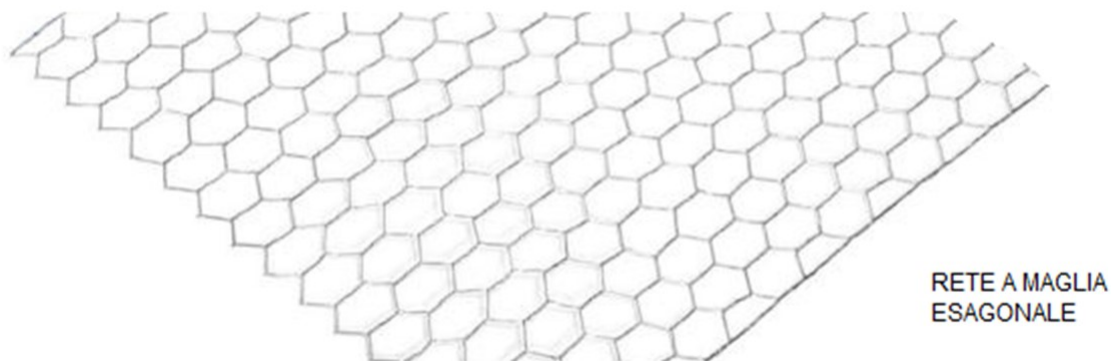

Fig. 3: Insertion of reinforcement mesh over pipes or ducts
- Above pipes or ducts, it is necessary to reinforce the screed with a hexagonal fine wire mesh (minimum thickness of screed above pipe not less than 2 cm) to prevent cracking with crack formation (Fig. 3):